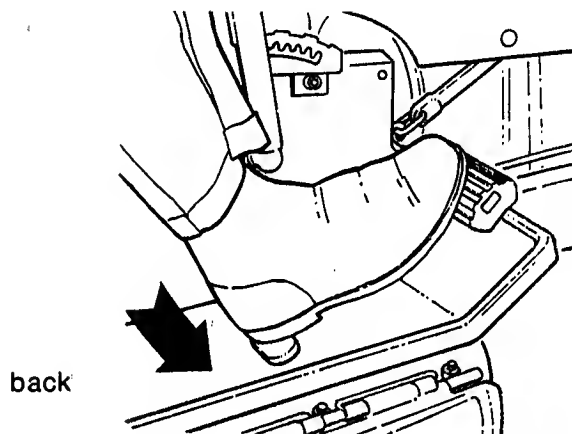

FIG. 6 - HEEL DOWN TO REVERSE MOTION
2. **REVERSE** - Slowly depress the "heel" pad on the CONTROL pedal, with your right heel. Refer to FIG. 6.